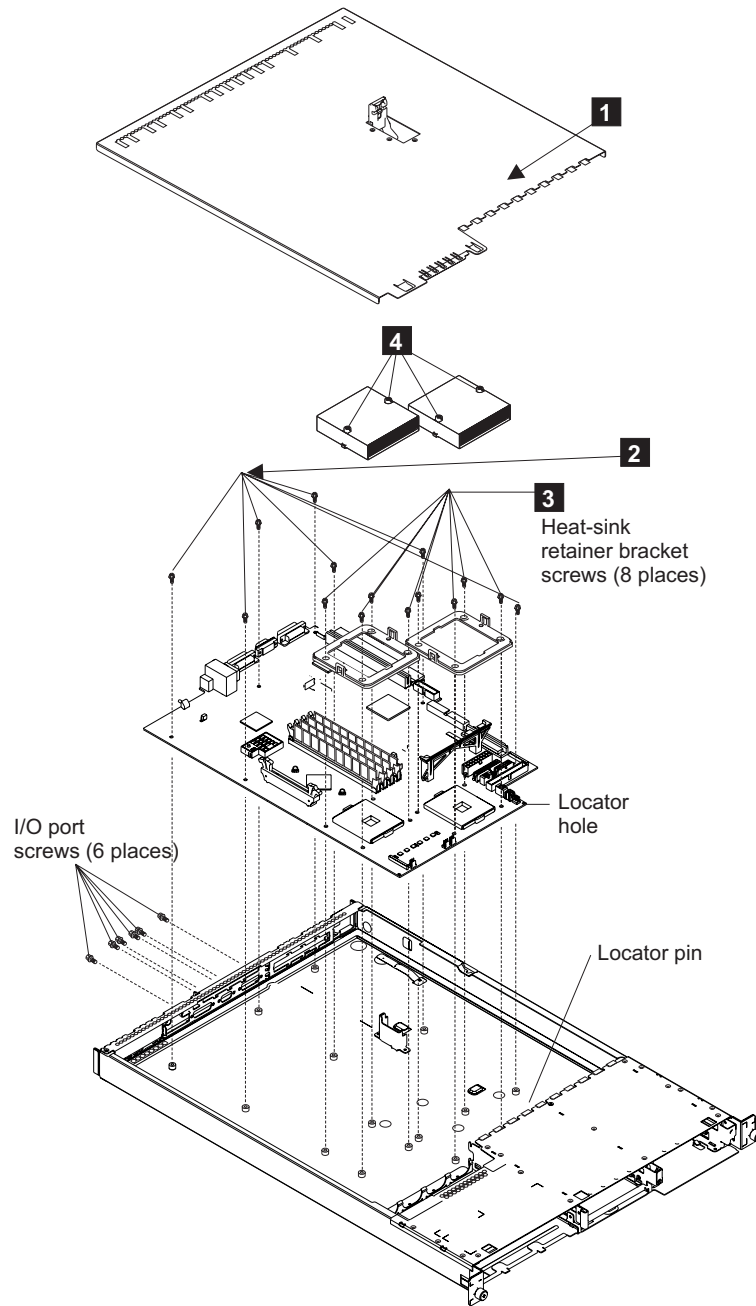

Figure 132. Removing the system board
3. Remove the top cover from the SAN Volume Controller **1**. See Figure 132 on page 351.
8. Unscrew the heat sink captive screws **4**. See Figure 132 on page 351.
10. Remove the screws from each of the heat sink retainer brackets **3**. See Figure 132 on page 351.
13. Remove the seven screws **2**. See Figure 132 on page 351.